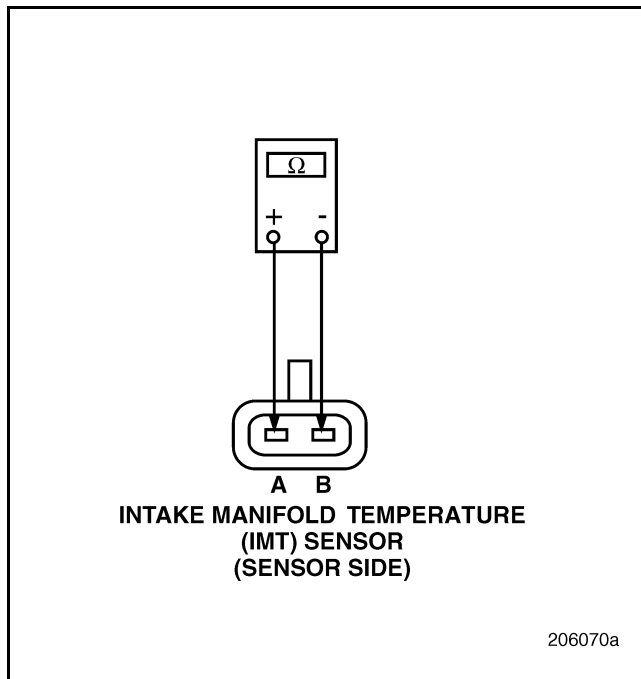

Figure 198
3. Measure the resistance across the pins of the IAT Sensor with the air temperature between 32° and 194°F (0° and 90°C) (see Figure 198).